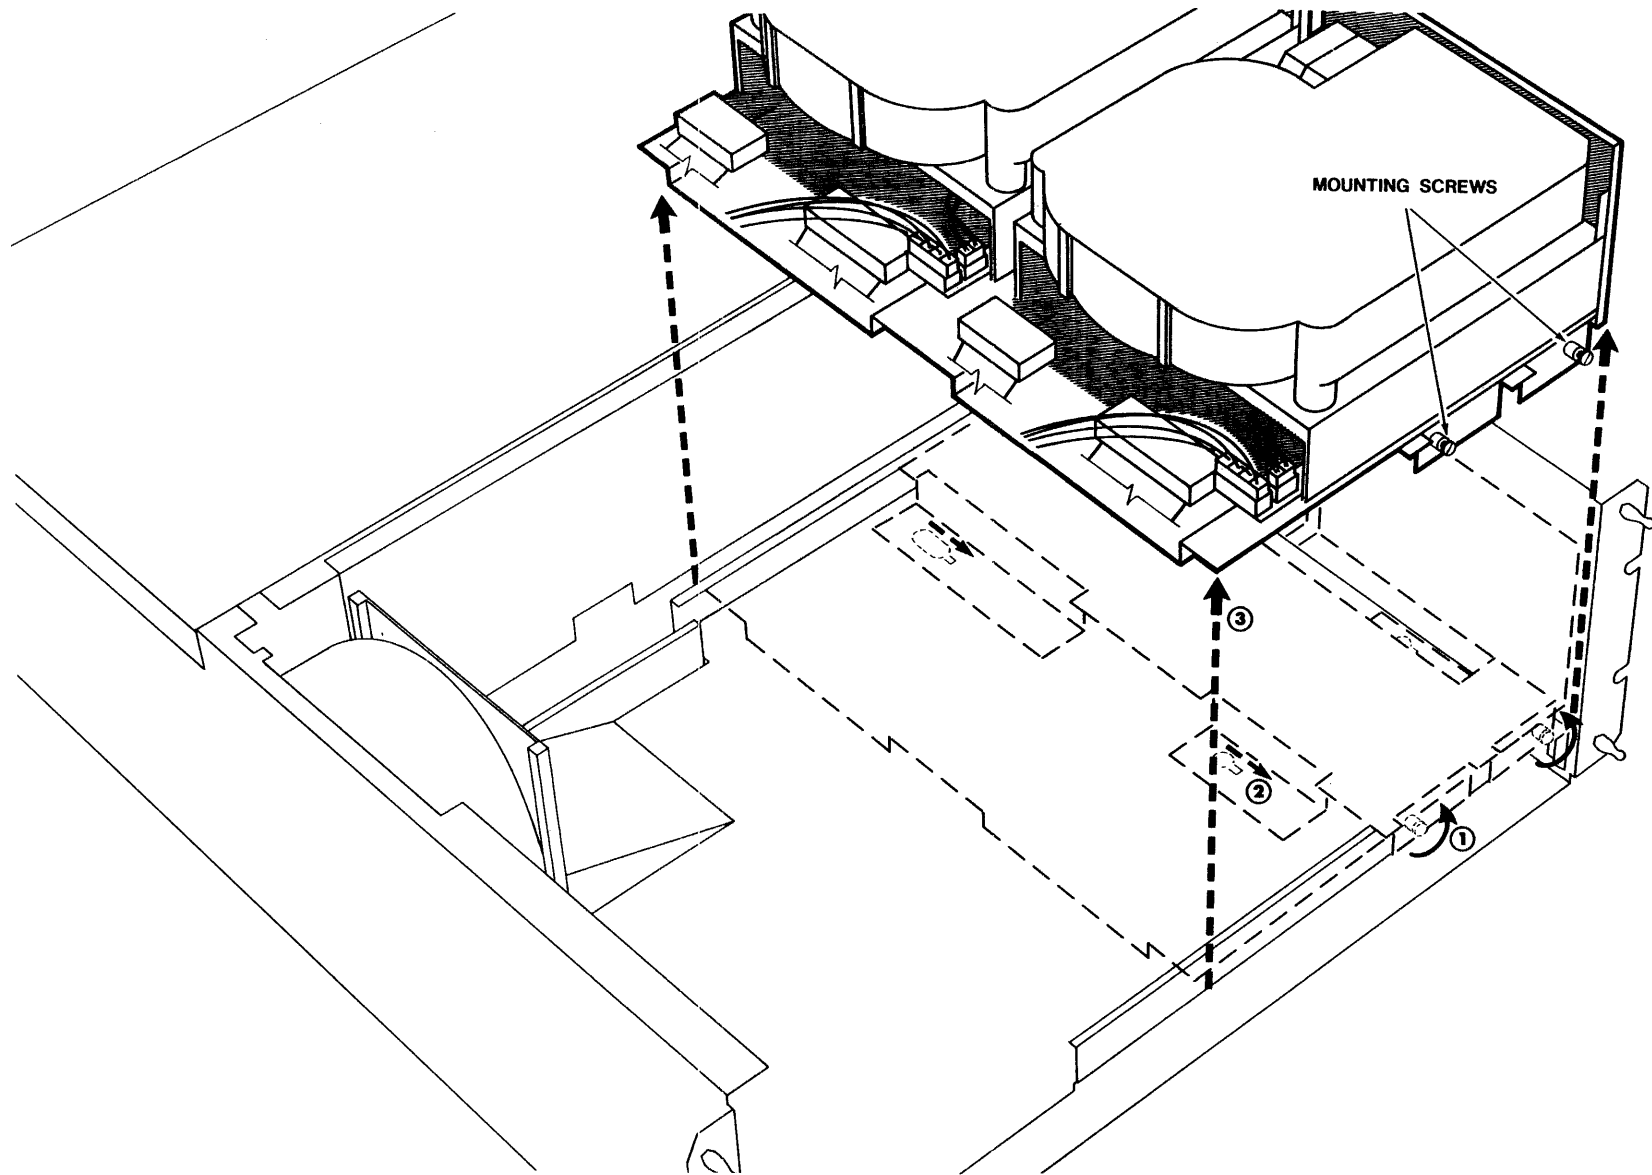

Fig. 10-12 Removal of dual Winchester drives
14. DUAL WINCHESTER DRIVES. First, disconnect the power connectors of the two drives from the backplane, and their signal cables from the foundation module. In the double Winchester configuration, both drives are mounted on a single removable mounting plate. To remove this plate, release the two captive screws at the front edge of the cabinet (see Figure 10-12) and then pull the mounting plate as far as it will go toward the front. The two drives can now be lifted up and removed.